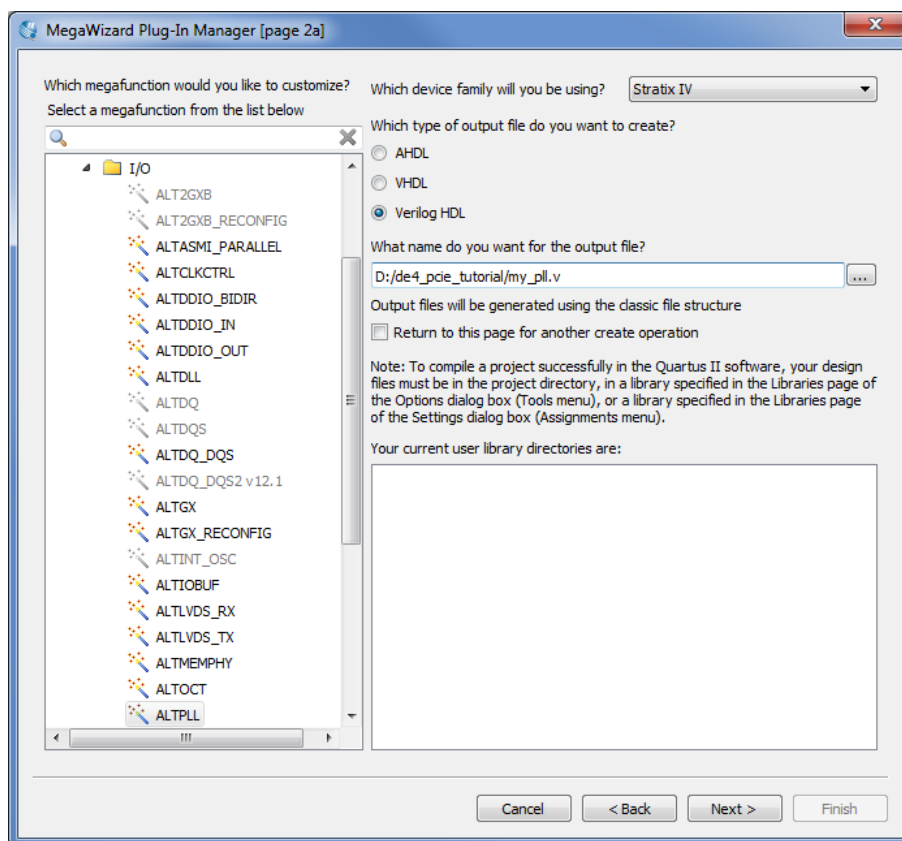

Figure 13. The MegaWizard Plug In Manager.
3. Choose the **Verilog HDL** as the output file type for your design, and specify a variation name for output files. For this walkthrough, specify *my\_pll.v* as the name of the IP core file: <working\_dir>/my\_pll.v, as shown in Figure 13, and click **Next**.